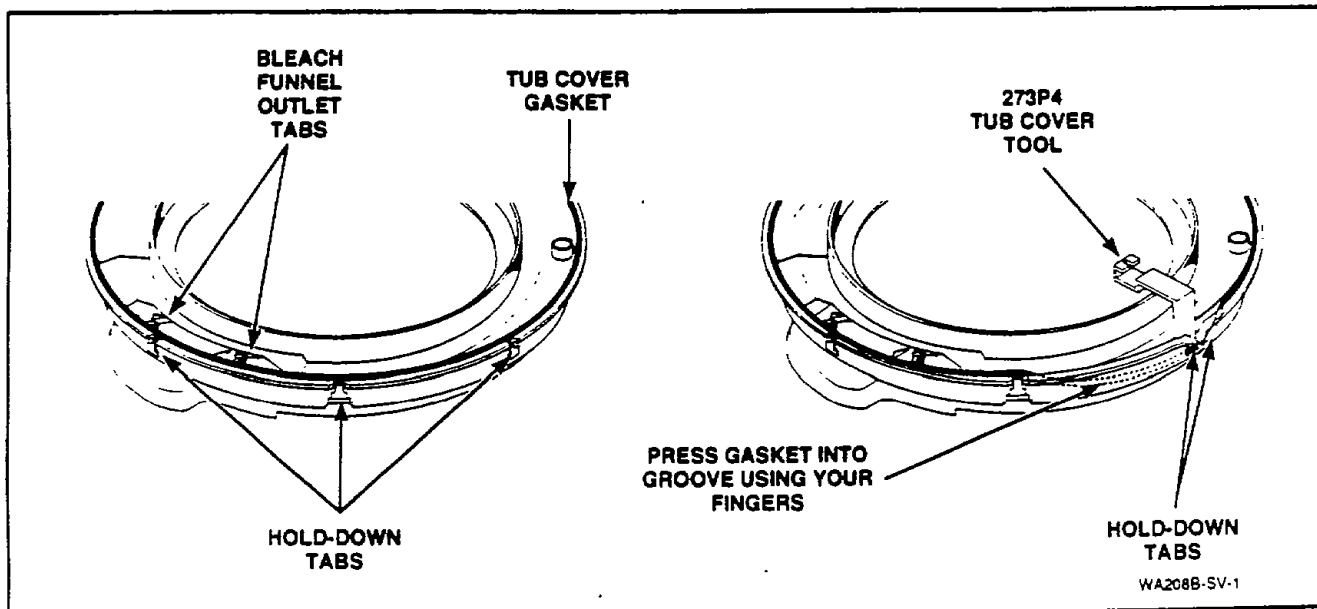

Figure 48
Starting at the positioning pin that is located between the two bleach funnel outlet tabs, lay gasket into the gasket groove of the tub cover, *Figure 48*. Using the semi-curved end of the tub cover tool Part No. 273P4, *Figure 48*, press against both tabs, when installing gasket past the ends of hold-down tabs and to bottom of groove. One by one, insert gasket past tips of all eight hold-down tabs.
Starting at the positioning pin that is located between the two bleach funnel outlet tabs, lay gasket into gasket groove of tub cover, *Figure 48*.
Using the semi-curved end of the tub cover tool, Part No. 273P4, *Figure 48*, press against both tabs when installing gasket past the ends of hold-down tabs and to bottom of groove. One by one, insert gasket past tips of all eight hold-down tabs.
- j. Remove four screws holding washtub to hub, *Figure 48*, then lift washtub out of outer tub.